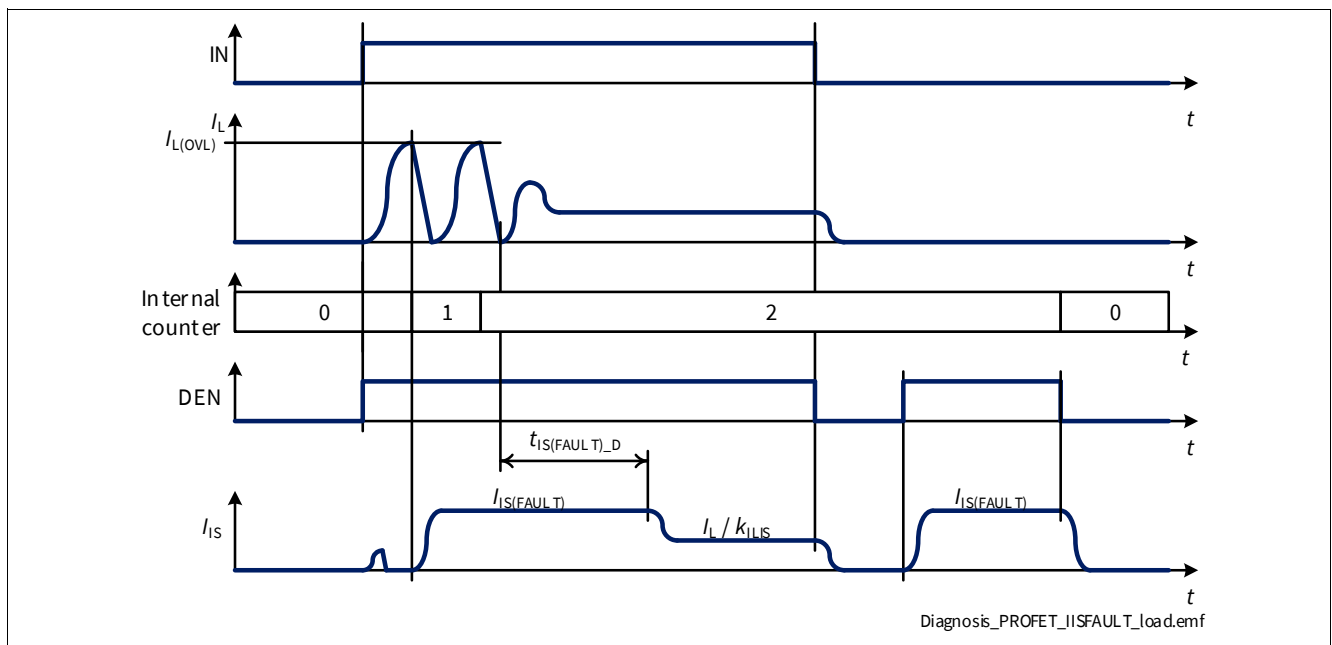

Figure 35 $I_{IS(FAULT)}$ at Load Switching
- If the channel is ON and the number of retries is lower than “ $n_{RETRY(CR)} + n_{RETRY(CYC)} * n_{RETRY(NT)}$ ”, the current $I_{IS(FAULT)}$ is provided for a time $t_{IS(FAULT)_D}$ after the channel is allowed to restart, after which $I_{IS} = I_L / k_{ILIS}$ (as shown in **Figure 35**). During a retry cycle (while timer t_{RETRY} is running) the current $I_{IS(FAULT)}$ is provided each time the channel diagnosis is checked